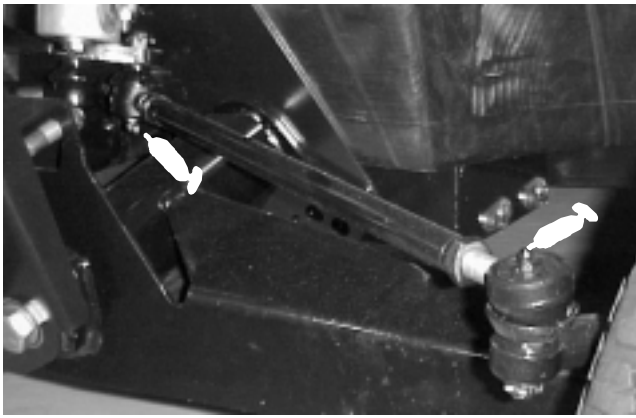
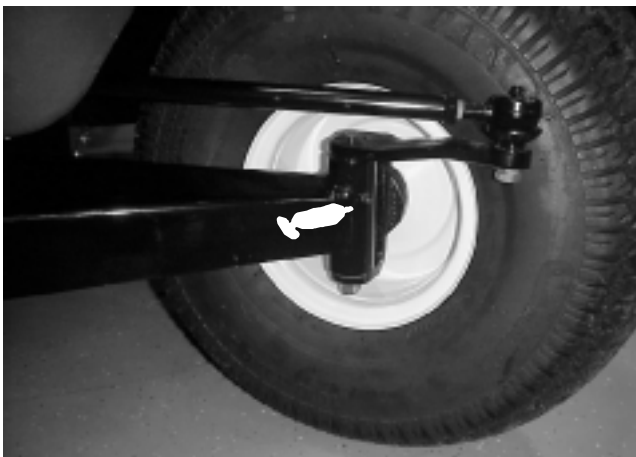

Figure 20
Figure 21
The grease fitting locations are at the tie rod ends (4) (Fig. 20) and the king pins (2) (Fig. 21).